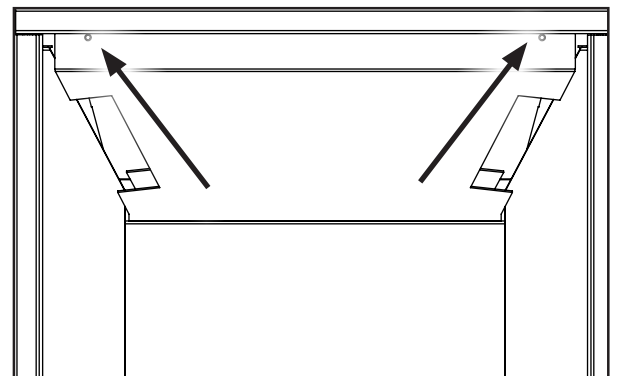

Figure 45. Top Panel Screws.
8. Install the top porcelain panel by screwing it to the firebox baffle as show in Figure 45 using the supplied screws.